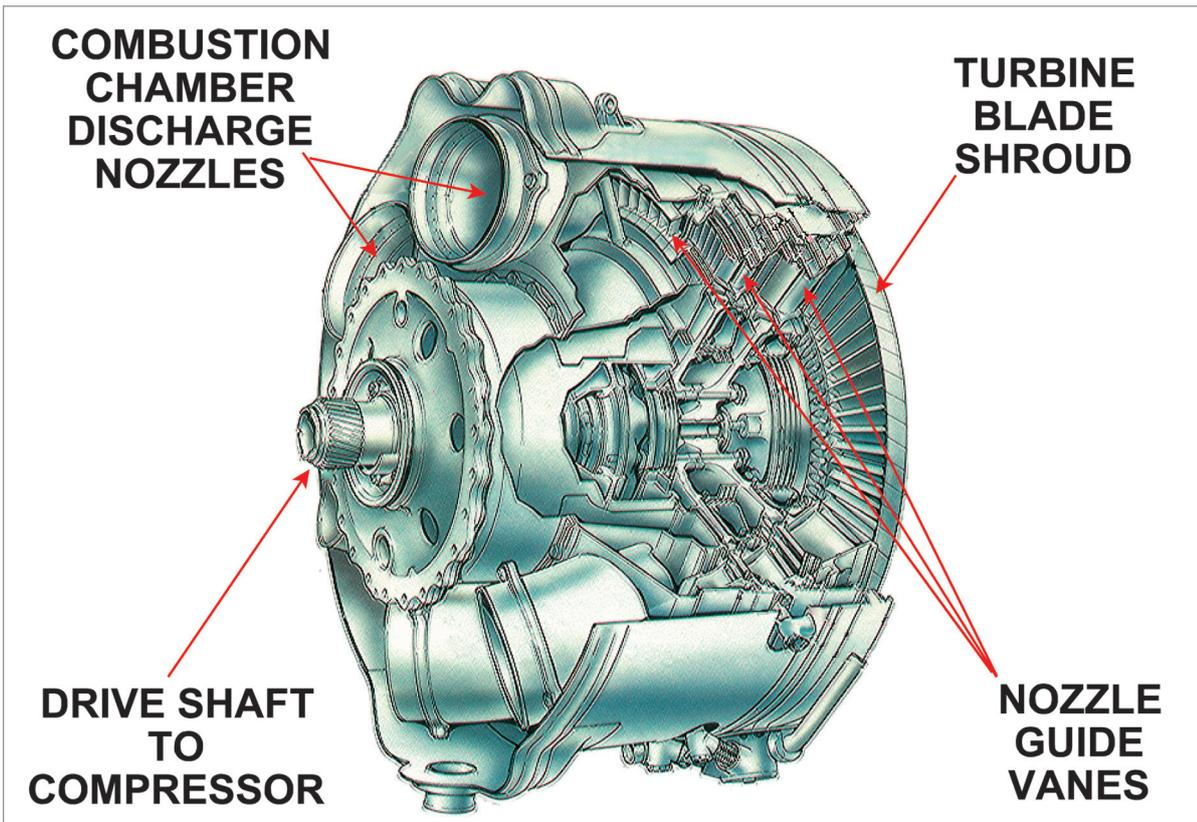

Figure 17.1 A three stage turbine assembly mounted on one shaft.
*Figure 17.1* shows a single shaft three stage turbine similar to that used on the Rolls Royce Dart turboprop engine.
The power output of a turbine can be increased by increasing its diameter, but this of course would increase both the drag factor, because of the larger size of the engine, and the stresses imposed through the greater centrifugal forces created. A simpler method was shown in Figure 17.1, where an increase in the number of stages allowed an increase in power output with a reduction in turbine diameter.